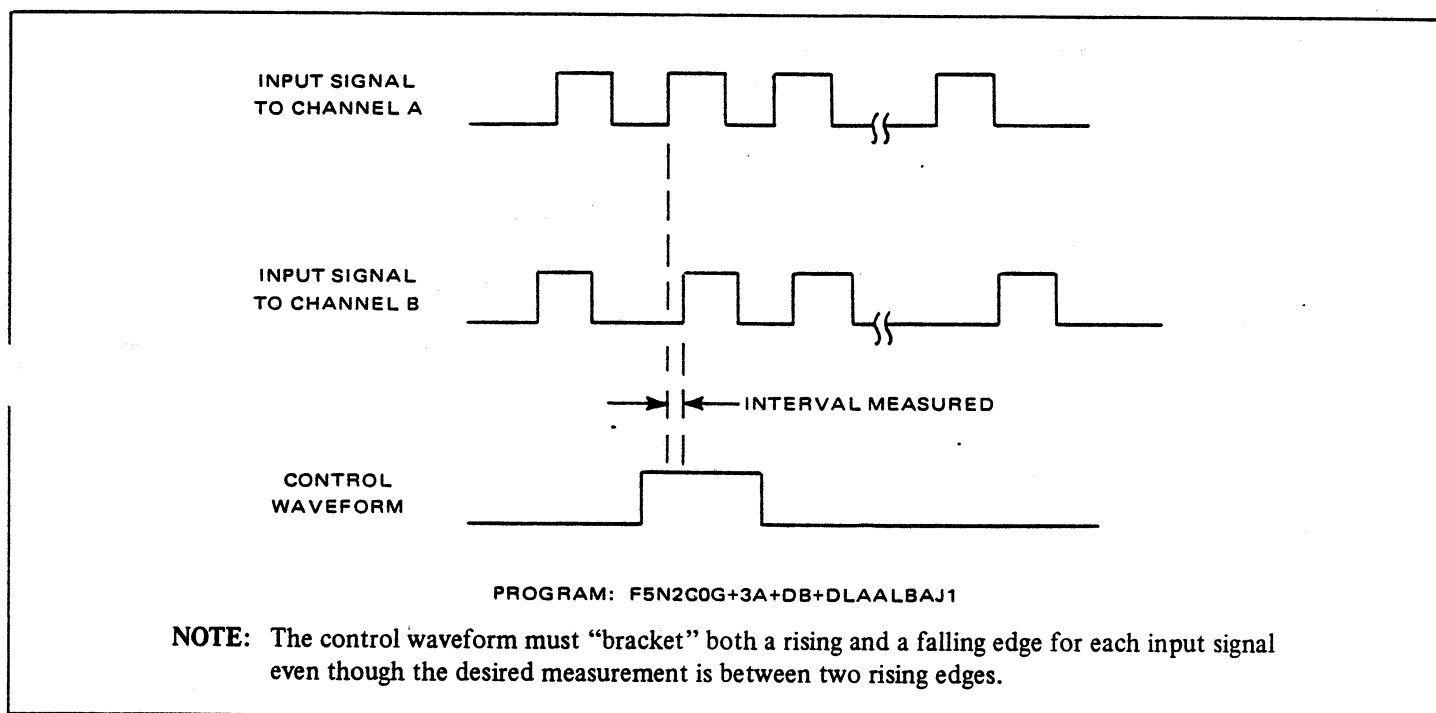

Figure 3.12 - Synchronous Window Example 2
3.2.11.4.3.1 When programmed as shown above the counter will measure and calculate the average time between the pulses bracketed by the control waveform for 1000 measurements as shown in Figure 3.12.